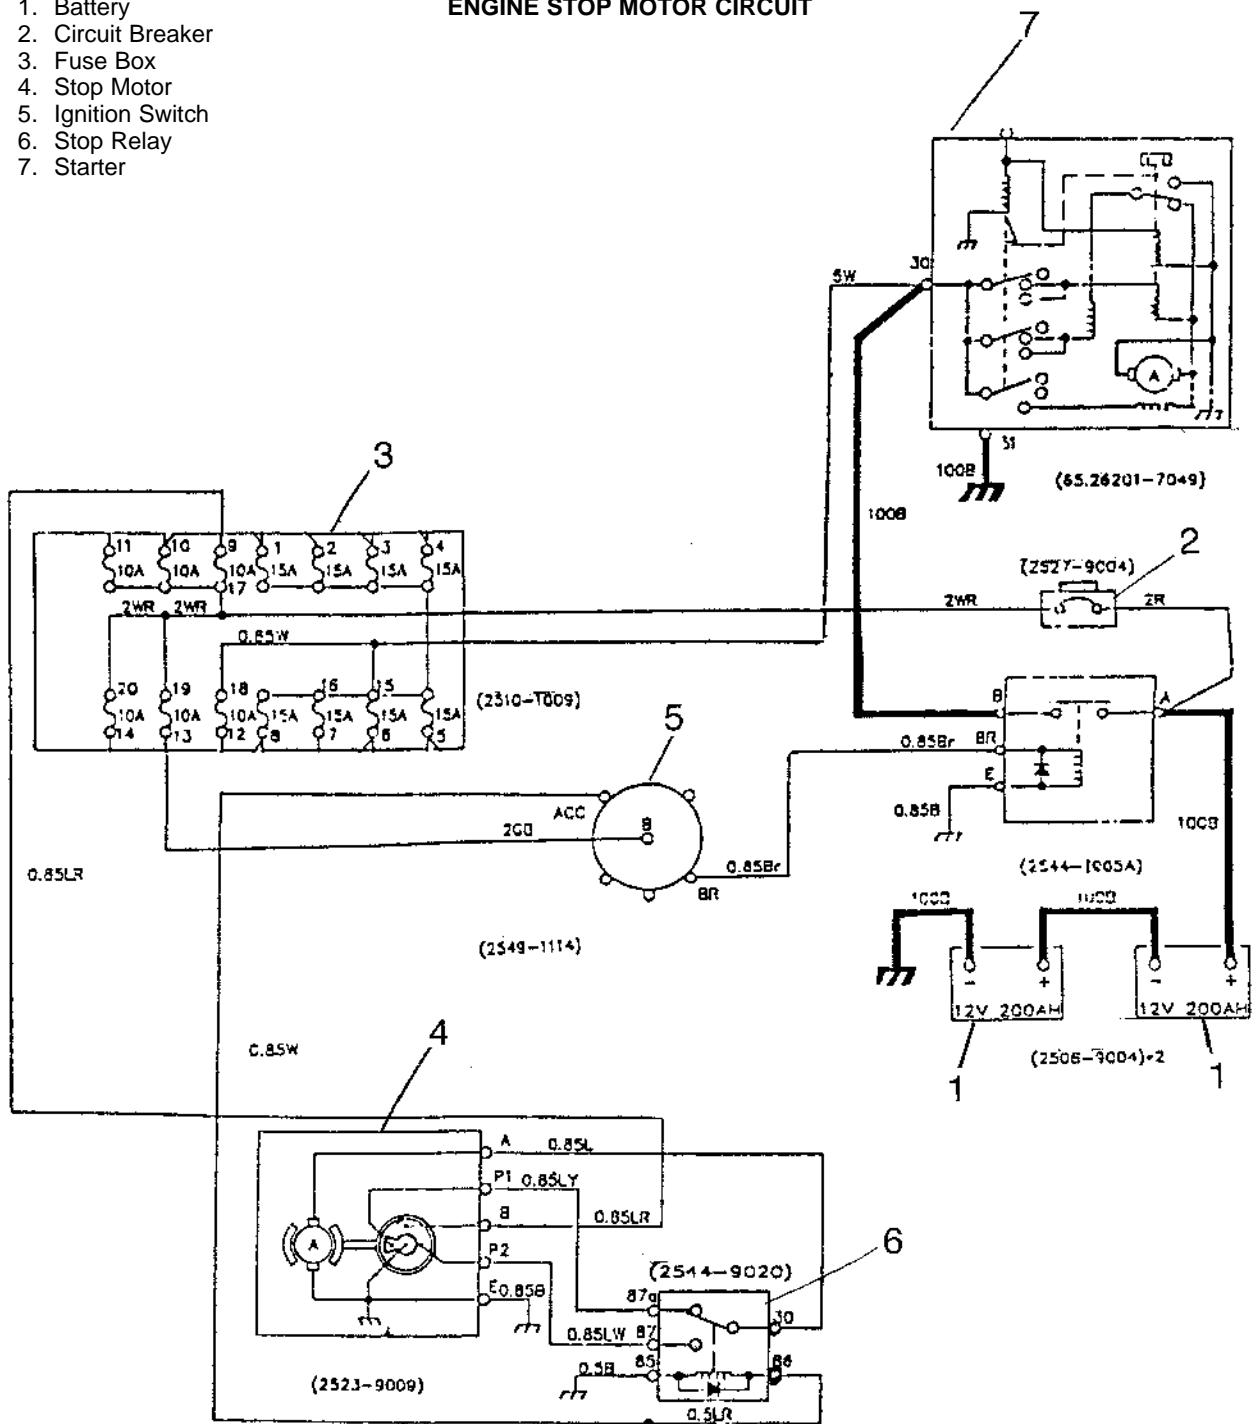

FIGURE 9-2
Current from the batteries (1, Figure 9-2) passes through the circuit breaker (2), and fuse box (3) and powers terminal B on the stop motor (4). This results in power at P2 of stop motor (4). Terminal B on the ignition switch (5) is also powered. With the ignition switch (5) in the ON position, terminal ACC is powered. ACC conducts power to terminal 86 on the stop relay (6). This energizes the solenoid in (6) and this connects terminal 87 with terminal 30 of
stop relay (6, Figure 9-2). Current from B of (4) is present at P2 of (4). This powers terminal 87 of (6) and conducts power to 30 of (6). This powers terminal A of (4) and this powers the stop motor (4) to rotate clockwise from the 0° position to the 180° position. This moves open the cutoff lever on the injection pump and allows fuel to be pumped to the injectors.